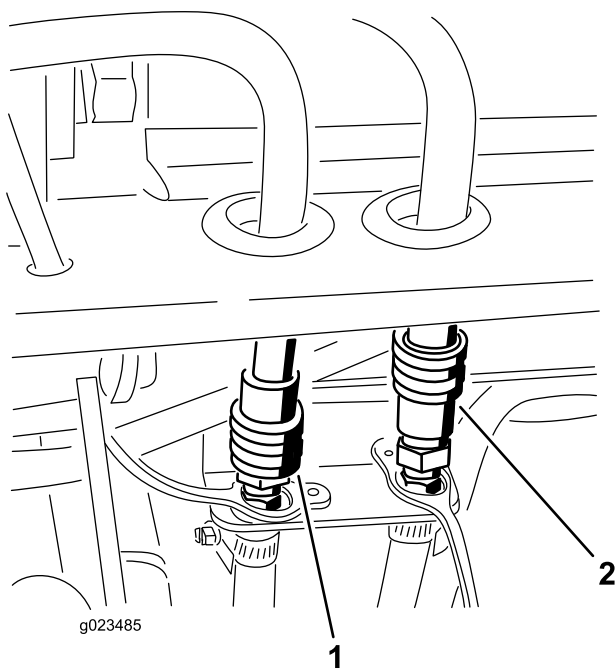

Figure 35
29. Connect the cab pressure and return hoses to the quick couplers on the rear frame mount (Figure 35).